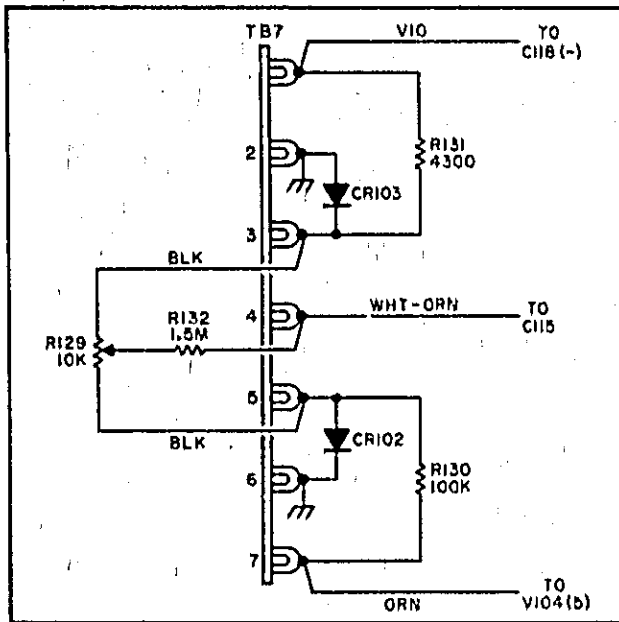

Figure 3. Wiring Diagram of Zero Offset Adjust Control
4. Install components as diagrammed in Figure 3.